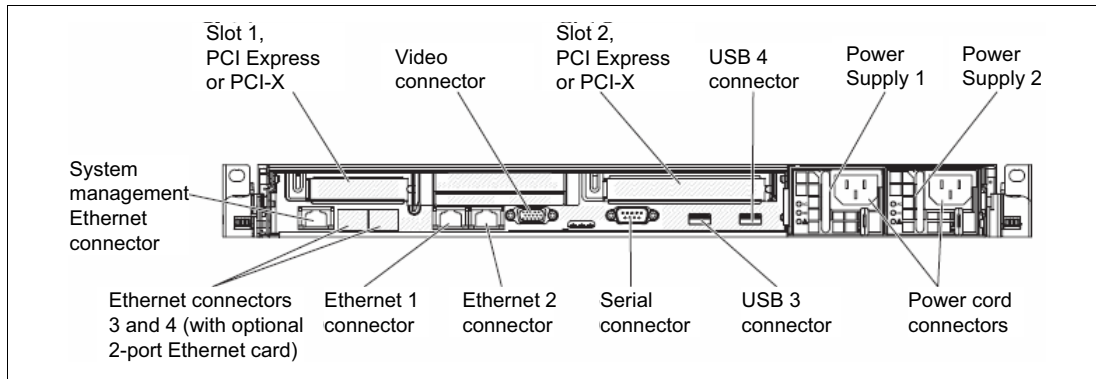

Figure 3-2 Rear view of a rack-mounted HMC 7042-CR5 and CR6
- A rack-mounted HMC 7042-CR5 and 7042-CR6 (Figure 3-2)